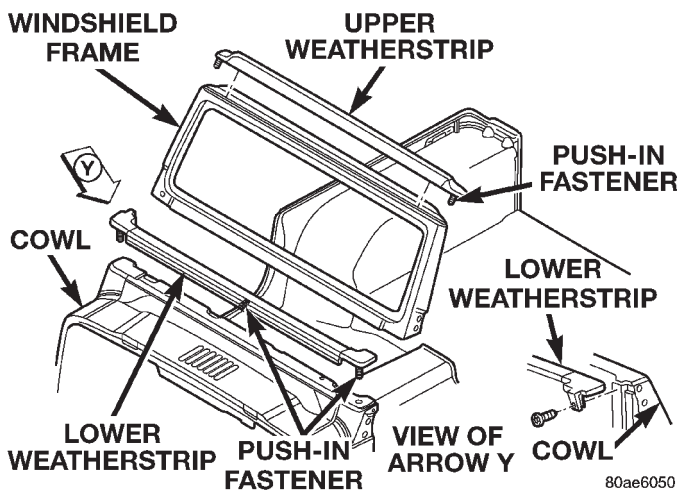

Fig. 9 Windshield Frame Weatherstrip
(2) Position the weatherstrip on the windshield frame, align the push-in fasteners and press it into place (Fig. 9).
(3) Remove adhesive backing from the bottom of the weatherstrip.
(4) Using forceful hand pressure, seat the adhesive on the contact surface.
(1) Mark the position of the wiper arms and remove the arms.
(2) Disconnect the top from the windshield frame.
(3) Remove the cowl grille.
(4) Remove the torx screws on each side of the windshield frame allowing the windshield frame to tilt to the full horizontal position.
(5) Disengage the outboard push-in fasteners at the top of cowl and unscrew the fasteners that hold the weatherstrip on each hinge pillar (Fig. 9).
(6) Disengage the push-in fastener at the center of cowl.
(7) Remove the weatherstrip from the cowl.